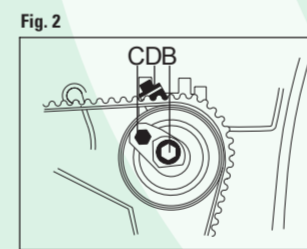

Fig. 2
- FIGURE 2 Unloose blocking bolt B, turn belt tensioner clockwise on the eccentric regulator C, align D indicator in the control zone, tighten blocking bolt B. Tension in -20° temperature